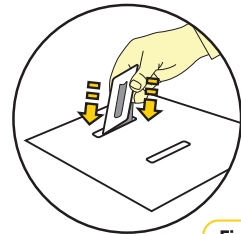

Figure 2
- Step 2:** To alter the buckle position, turn the carrier up side down and grab the 3 bar plate and feed it through the slot (refer Figure 2).
- Step 3:** Loosen the harness straps by pressing the harness adjuster whilst pulling on both harness straps (Refer Figure 2).